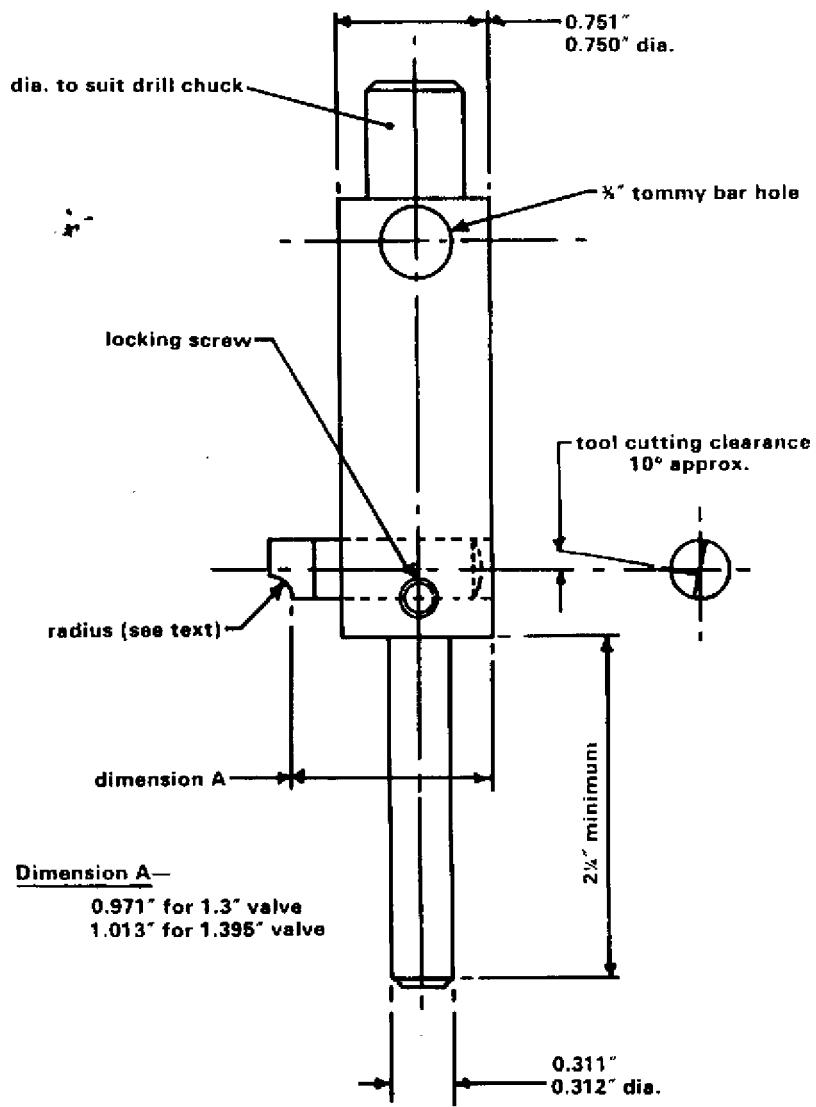
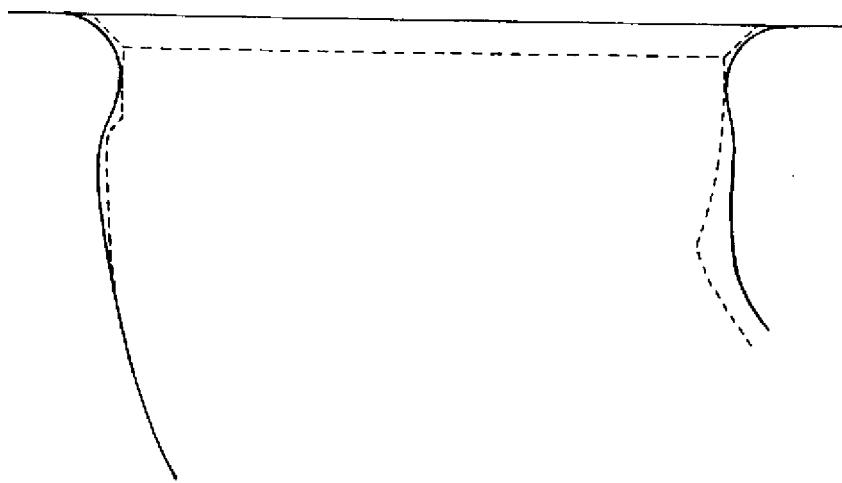
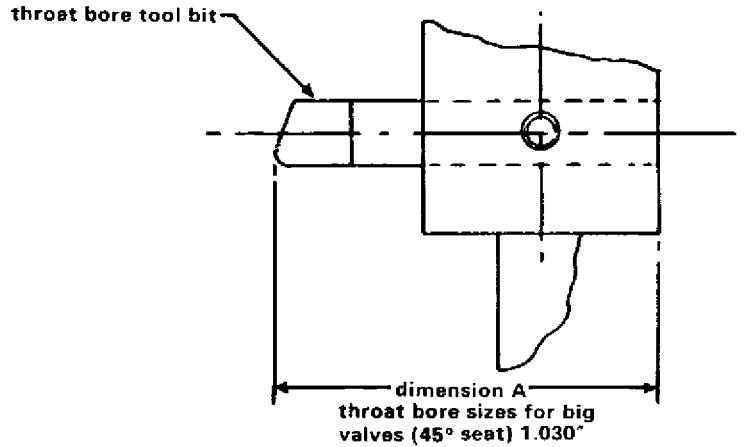
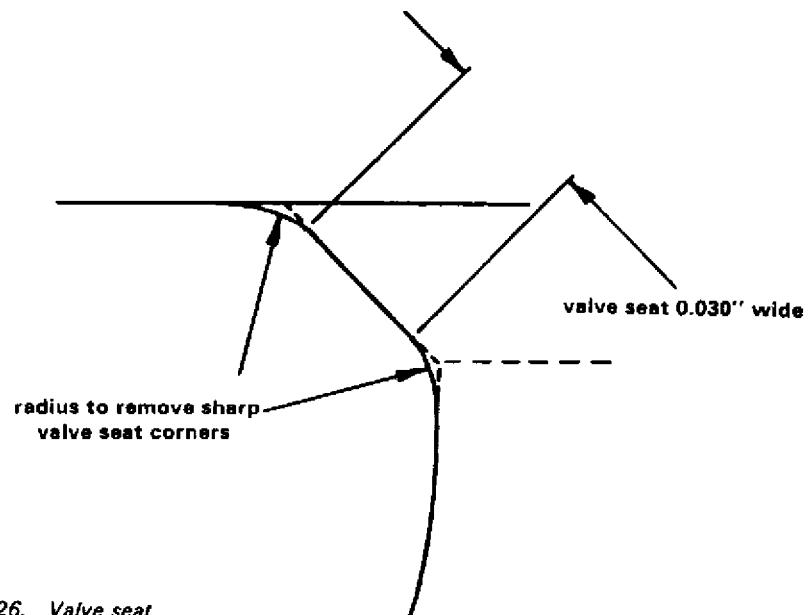

Fig. 21. Valve seat radiusing tool.
Fig. 22.
Fig. 25.
Fig. 26. Valve seat.
If you decide to use radius valve seats on the inlet side, then a different approach is required. To start with, you will need to make up a special radius valve seat cutting tool, the details of which are shown in Fig. 21. The seat radius we are going to use is 0.125 " and to make sure the tool bit is accurately formed to cut this radius, the correct method of approach should be used. Firstly the tool bit is best made up from an old centre drill of $5/16$ " or so diameter. Using an off-hand tool grinder, rough out the general shape of the tool. Mount a piece of $1/4$ " diameter mild steel bar in a lathe or drill chuck and coat it with fine lapping paste. Rotate the bar and press the roughed out form of the radius against the
bar. Distribute the wear on the bar by moving the tool bit up and down the length of the bar. Whilst accurately forming this radius, be sure to hold the tool bit at a slight angle, approximately 10° , to the bar to give the tool a cutting clearance. Once the tool has been made up, set it in the tool holder to the dimension shown in Fig. 21. Using a pillar drill set on a slow speed to avoid tool chatter, cut the seats. Now back to the -grinder and blend the radius seat into the port as shown in Fig. 22. At this stage in the proceedings you will have to leave the head and turn your attention to the inlet valves. The idea here is to reshape the valves to assist our gas flow. It may seem strange at first sight, but tulip valves do not always give the best gas flow characteristics. To get better cylinder filling we must reduce the tulip shape to something more along the lines of the head of a nail. Fig. 23 shows the shape we should
fitted into the tool holder as shown in Fig. 21, should be used. The setting dimension (A) will be 1.030". The tool setting to bore the correct size for a 1.395" diameter valve is shown in Fig. 25. This will give us a throat diameter immediately under the valve of 1.310" diameter. Boring out the throat also means we stand a very good chance of completely removing the small step which occurs just under the valve seat on the majority of heads. When the port has been bored to a depth of 1/8" to 3/16" blend out any irregularity with the finished part of the port. Cut the valve seat and lap in the valves. Now comes a tricky bit; put a small radius on the inner edge of the valve seat thus breaking the sharp corner formed by the seat at the port (Fig. 26). In doing so, this should reduce our seat width to about 0.030".
For those of you who are brave enough to tackle radius seats, you will need the tool holder and radius cutting tool shown in Fig. 21. For this particular application, the radius of the cutting tool should be 0.140" instead of the 0.125" shown in the drawing. Our setting dimension will also be different.
Before you remove the inlet guides from the head to grind the ports, the radius seats should be roughed out. The setting dimension for roughing out the seats, dimension A in Fig. 21, will be 1.003. Once the seats have been roughed out, the guides can be removed and the ports ground to the required form as in Fig. 27 and polished. New modified guides are then fitted and the seats finished off. To do so, the radius seat cutter, dimension A, must be reset to 1.013" and carefully recut. The finishing procedure em